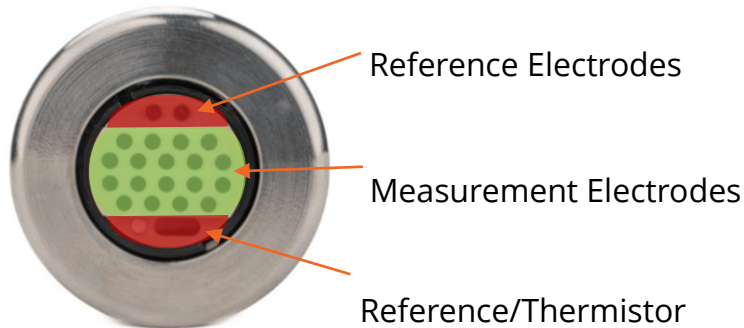

Figure 2-3 Teledyne Valeport pH sensor transducer showing electrode layout.
- Touching the recessed reference electrodes of the sensor face can lead to irreparable sensor damage. See Figure 2-3.